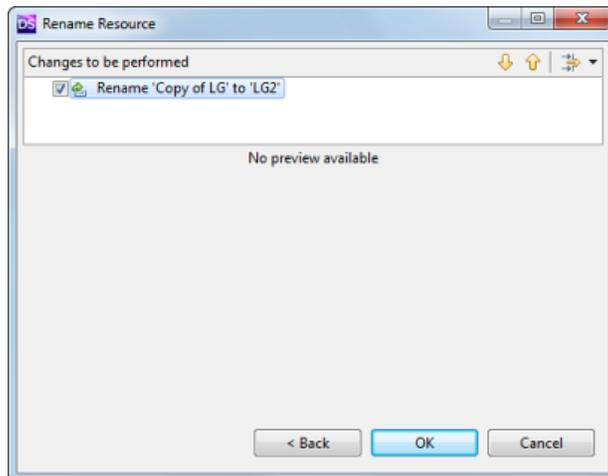

FIG. 22 Rename Resource (Preview) dialog
2. Click **OK** to rename the selected project immediately, or click *Preview* to preview and verify the changes before they are made (FIG. 22):